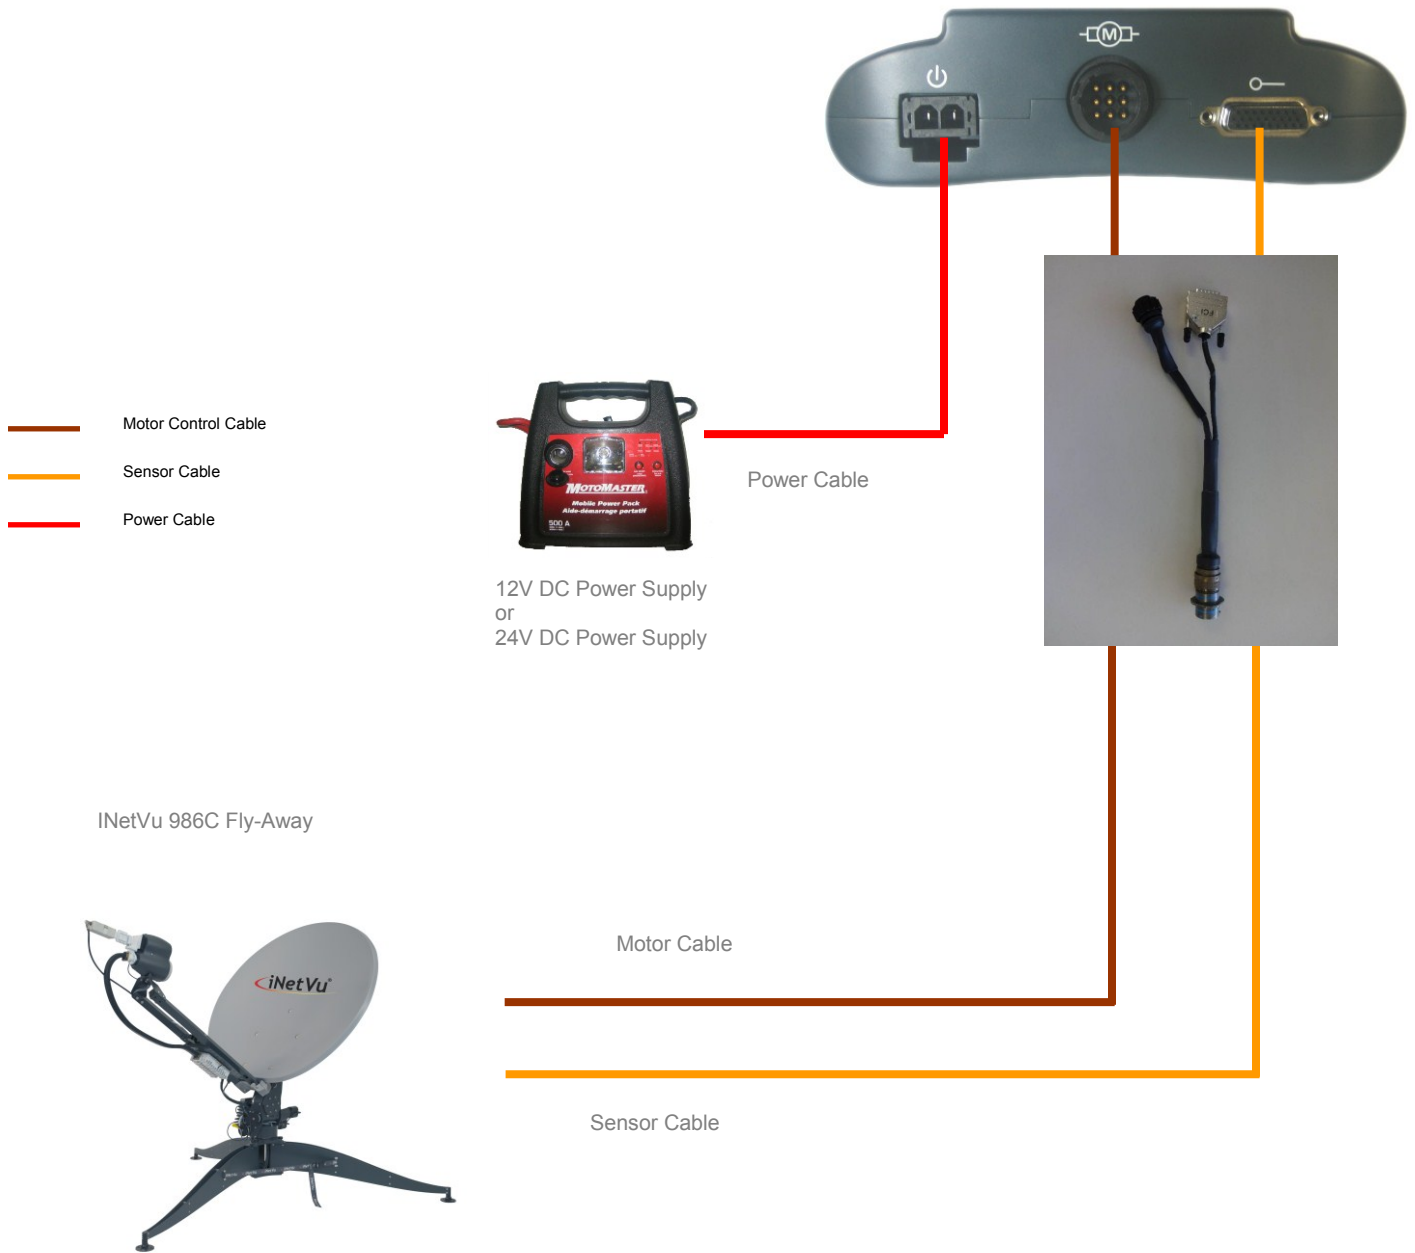

Fig. 6: Typical Connection Configuration for Mounts equipped with 7720 Remote Drive Module
2. Azimuth Left/ Azimuth Right - To move the iNetVu® platform left or right (this is determined by the front and back orientation of the reflector), see Fig .6 for more details regarding platform/reflector orientation. Facing the reflector, press and hold the desired button to move right or left until position required is reached. Moving right will decrease the Azimuth angle while moving left increases the angle. Movement on AZ will not be allowed once **EL: D** or **EL: S** limit switches are triggered. Movement on AZ will be allowed if **EL: U** limit switch is on.